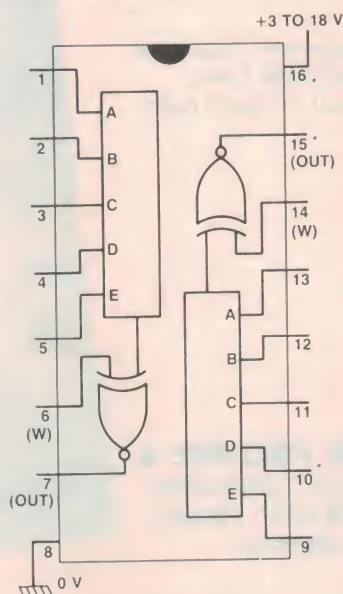

Figure 29. Details of the 4530B dual five-bit majority-logic gate.
The best known CMOS majority logic IC is the 4530B dual five-bit unit (Fig 29), each half of which contains a five-input majority logic element with its output feeding to one input of an EX-NOR gate that has its other input (W) externally available, enabling it